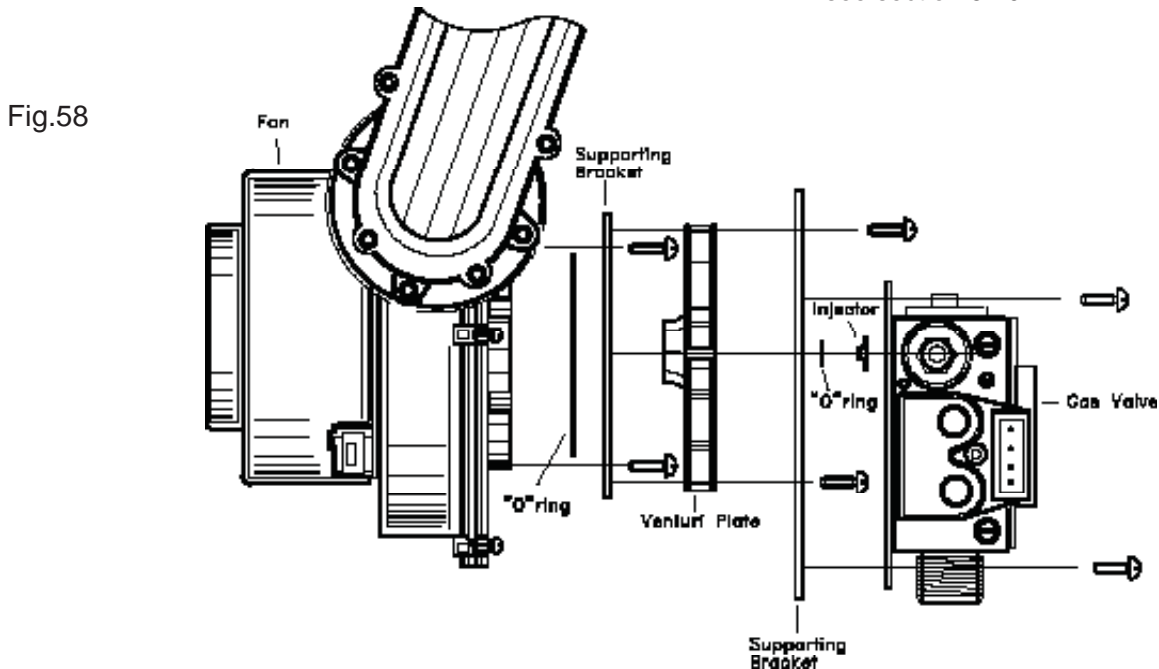

Fig.58
8.8 TO REMOVE/REPLACE GAS CONTROL VALVE AND OR VENTURI PLATE . (Fig.58).